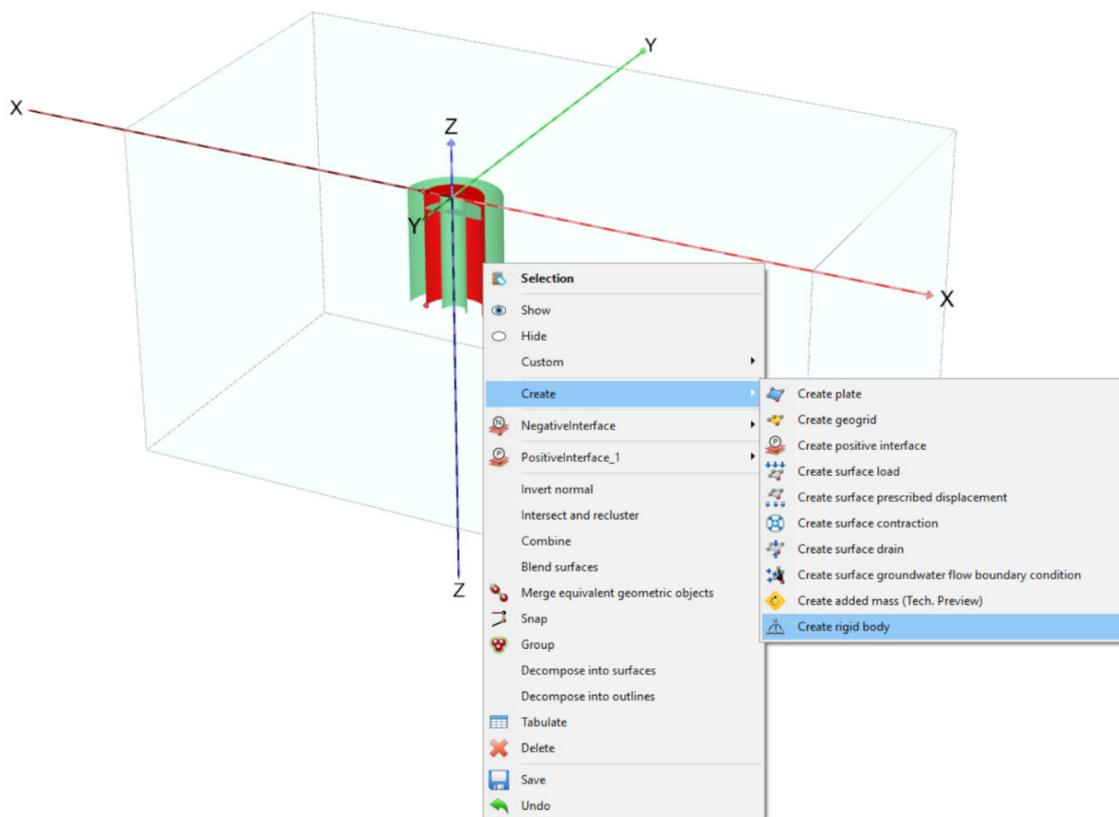

Figure 45: Rigid body creation
- Multi-select the top and the curved surface. Right-click on the selected surfaces and select the option **Create** > **Create rigid body** from the appearing menu (see Figure 45 (on page 66)).